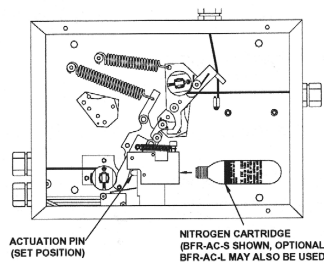

Figure 18.
5. Screw the test nitrogen cartridge into the manifold block. See **Figure 18**.